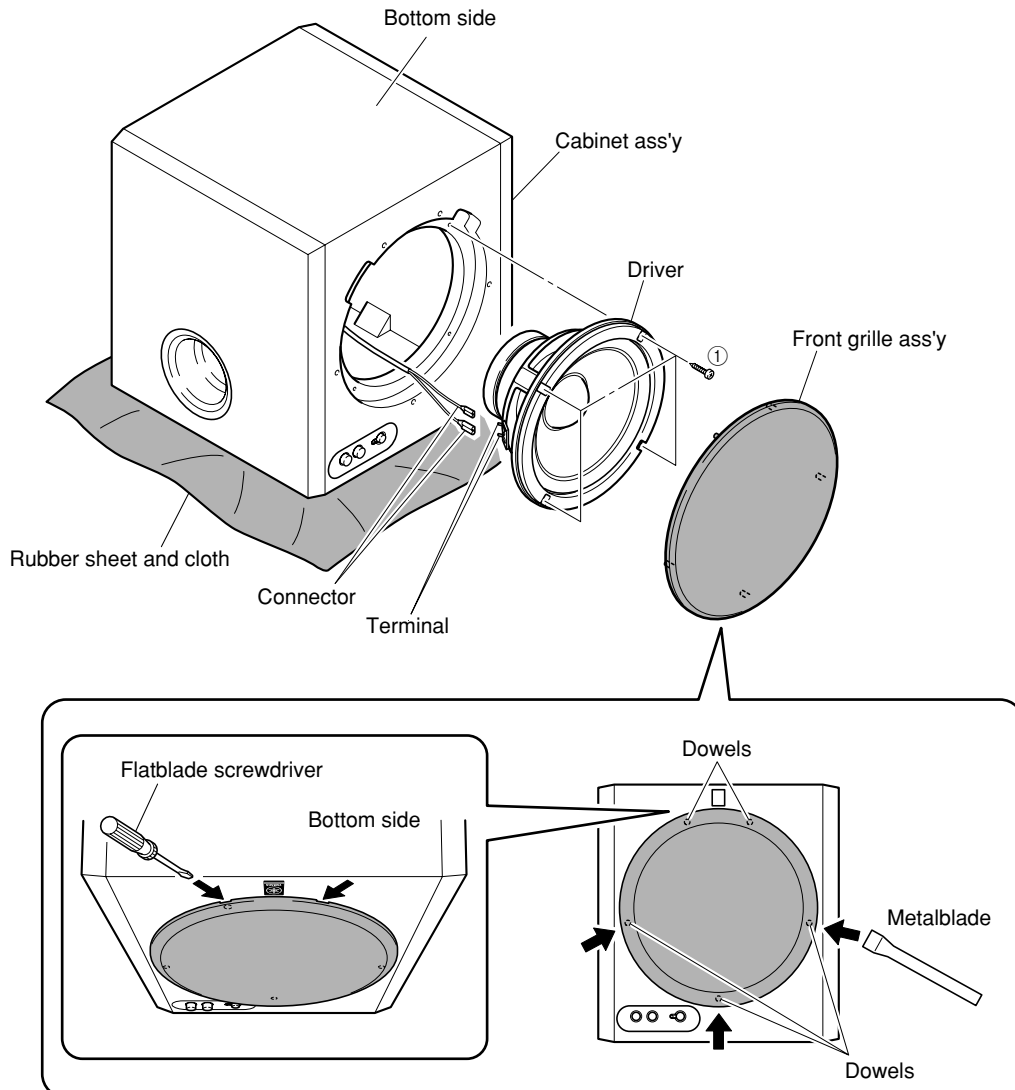

Fig. 1
- Using the flatblade screwdriver inserted in the gap between the front grille ass'y and the cabinet ass'y (bottom side first), push up the front grille ass'y. (Fig. 1)
- Remove the front grille ass'y by lifting a metalblade up. (Fig. 1)
- Remove 4 screws (①) and then remove the driver. (Fig. 1)
- Disconnect the connector connected to the terminal of the driver. (Fig. 1)